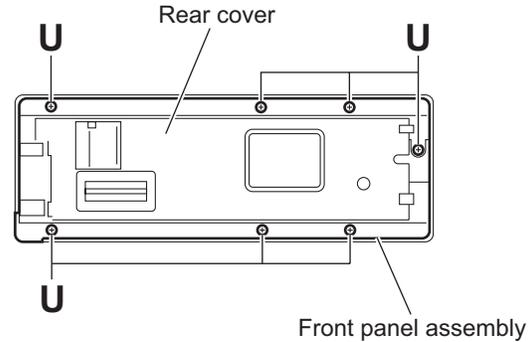

Fig.20
3.1.14 Removing the panel board (See Figs.20 and 21)
- From the back side of the panel assembly, remove the seven screws **U** attaching the rear cover to the panel assembly. (See Fig.20.)
3.1.15 Removing the switch board (See Figs.20 and 22)